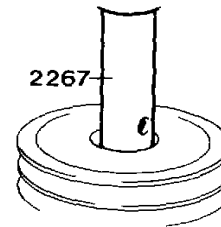

Fig. 165.
6. Lift the outer bearing inner race and the inner spacer ring out of the hub. Press both the bearings and the spacer ring out of the hub. Use 2267 as shown in fig. 165.